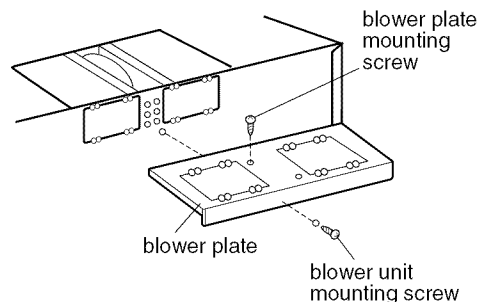

Figure 18
1. Remove one blower unit mounting screw and one blower plate screw. Remove the blower plate from cabinet. See **Figure 18**.